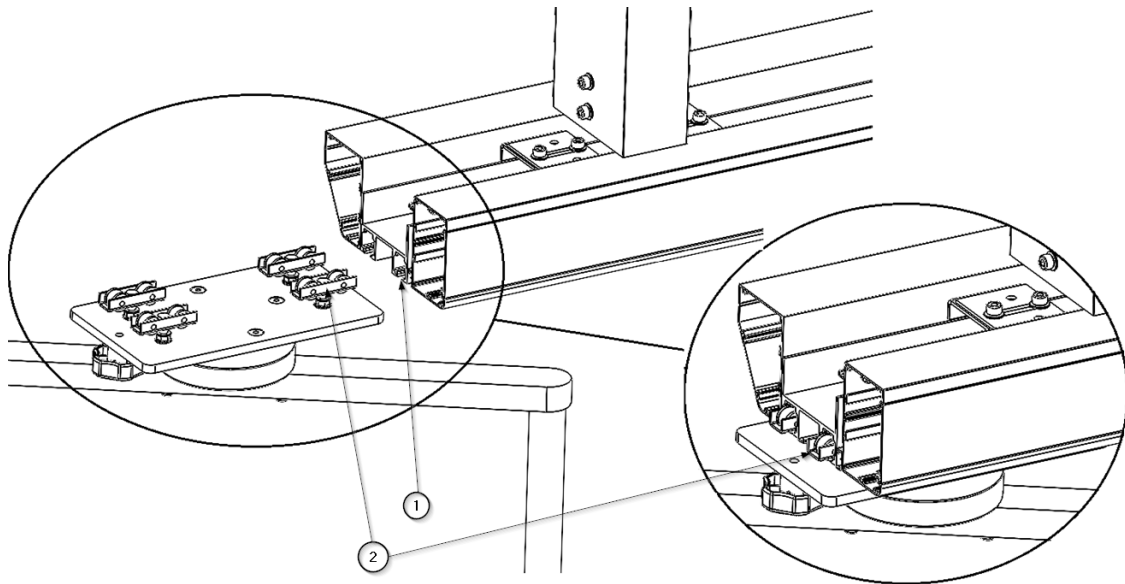

Fig. 12 Assembly of the trolley
- Insert the carriage with the bearings ② into the guide in the centre of the main body ① as shown in figure 12.
The electrical connection is always made in the connection area shown in figure 12. This is located on the main body, next to one of the downpipes. All electrical hoses are numbered to identify the circuit to which they belong. The colour of the cable will indicate whether it is an earth connector, a neutral or a phase.